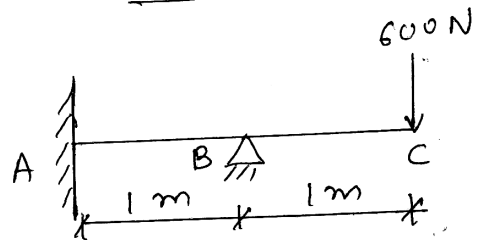

Fig. 4
- Q.3** For the beam shown in Fig.4, Determine the slope and deflection at C. **14**